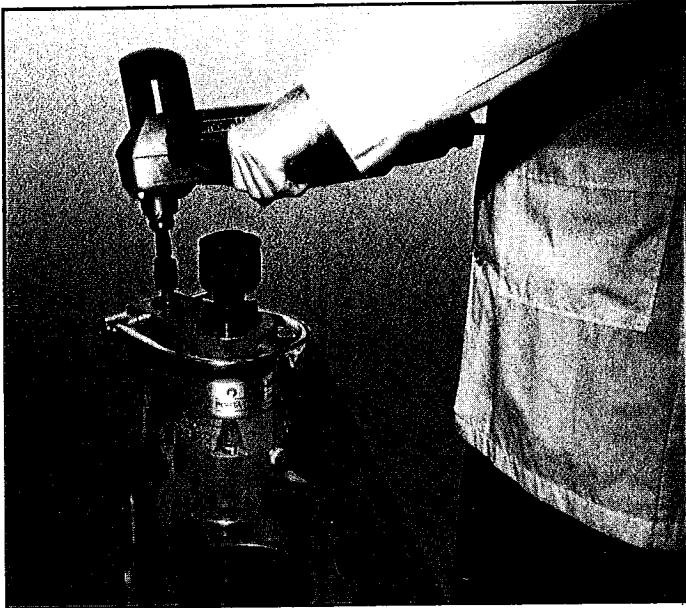

Figure 12
11. Install universal drive adapter and drill onto driveshaft of Porta-Matic and prepare to bore without stopping until the machine freewheels. (See Figure 12)